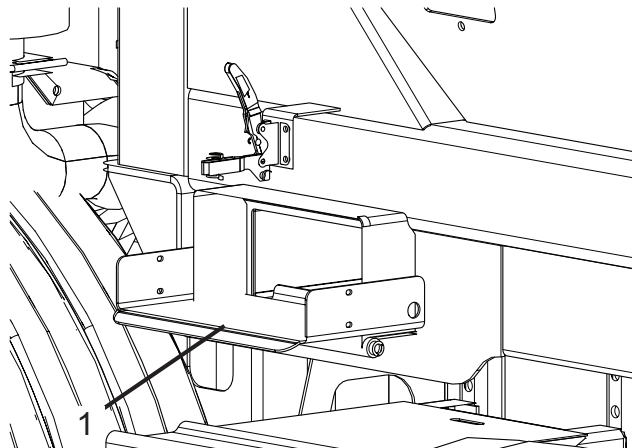

Figure 8
3. Open the clean out door (Figure 8, Item 1).